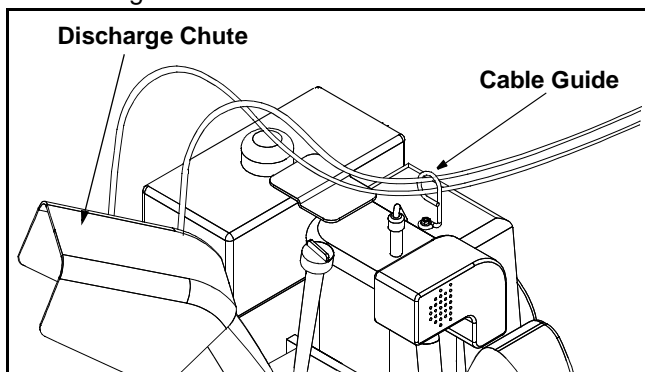

Figure 5
- If not already attached, slip the cables that run from the handle panel to the discharge chute into the cable guide located on top of the engine. See Figure 5.